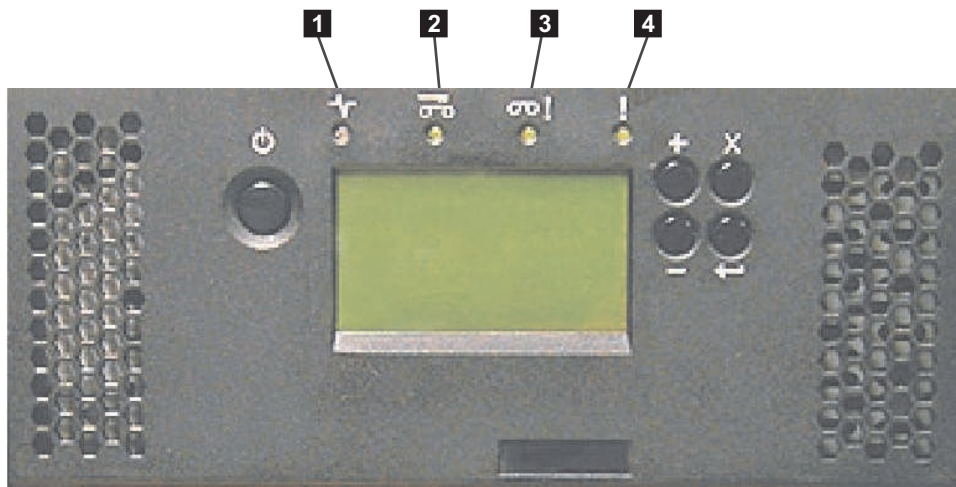

Figure 155. Library front panel LEDs
- 1) After power up, the Ready/Activity LED (**1** in Figure 155 on page 197) turns ON.
- 1) The Error LED (**4** in Figure 155 on page 197) turns ON.
- 1) The replacement library enclosure will power up with the Ready/Activity LED (**1** in Figure 155 on page 197) ON.
- 1) The Error LED (**4** in Figure 155) will turn ON. This indicates that the Library Controller Card from the defective library is not functioning properly.
- 1) The replacement library enclosure will complete with the Ready/Activity LED (**1** in Figure 155 on page 197) ON.
- 1) The Error LED (**4** in Figure 155 on page 197) will turn ON.